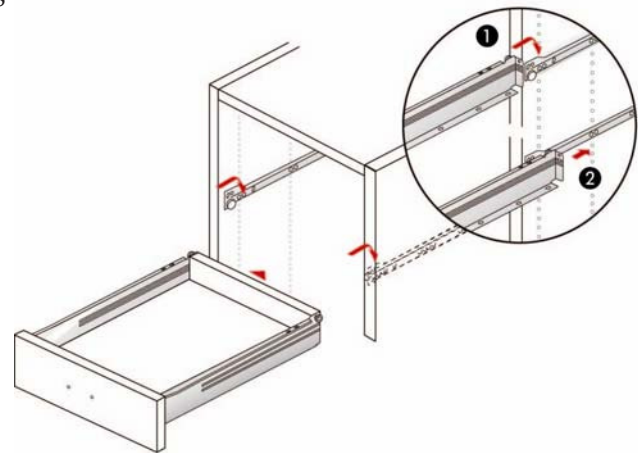

Fig 8
15. Slide drawers into runners. (See Fig. 8.)